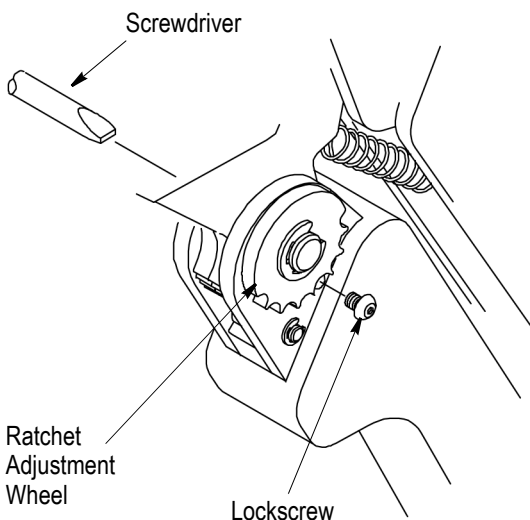

Figure 5
5.1. Ratchet Adjustment (Figure 5)